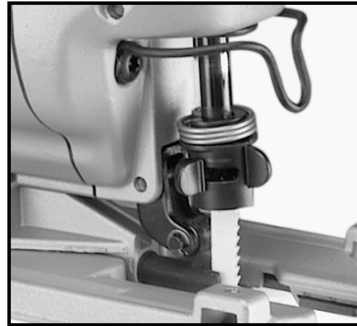

Fig. 4
5. With the teeth of the blade toward the front of the saw, insert the blade through the blade guide into the blade holder as far as it will go and release the levers (Fig. 4).
6. Pull up on the blade (Fig. 3) until it locks in place. The blade is properly installed when the levers are aligned as shown in Fig. 4.